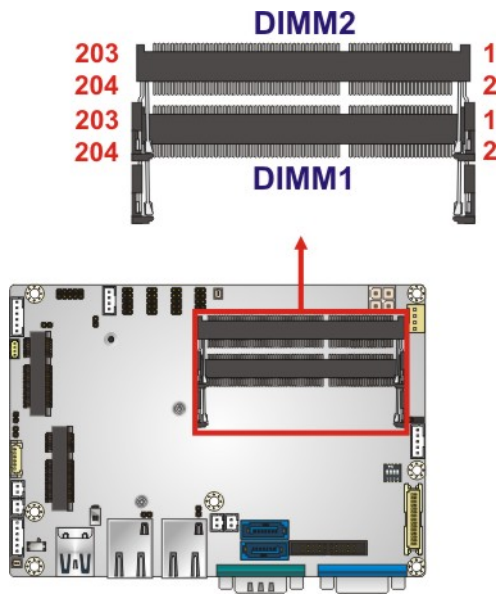

Figure 3-25: SO-DIMM Slot Locations
- CN Location:** See **Figure 3-25**